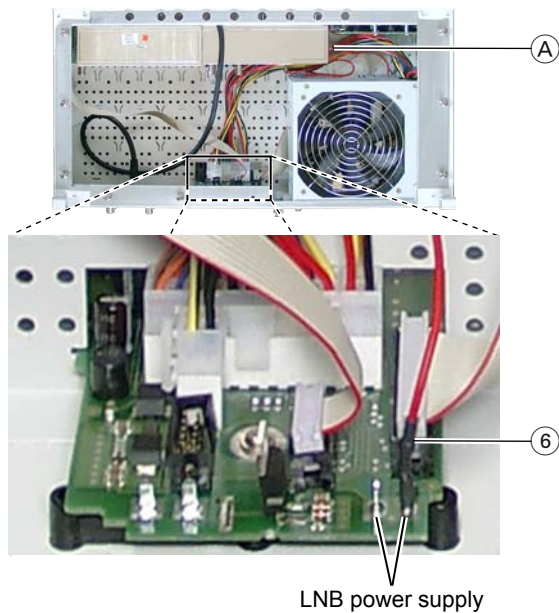

Fig. 7
- Connect plug ⑥ of the cable of the LNB power connection ① (fig. 7) to one of the contacts "LNB power supply" (12 V / 800 mA total).